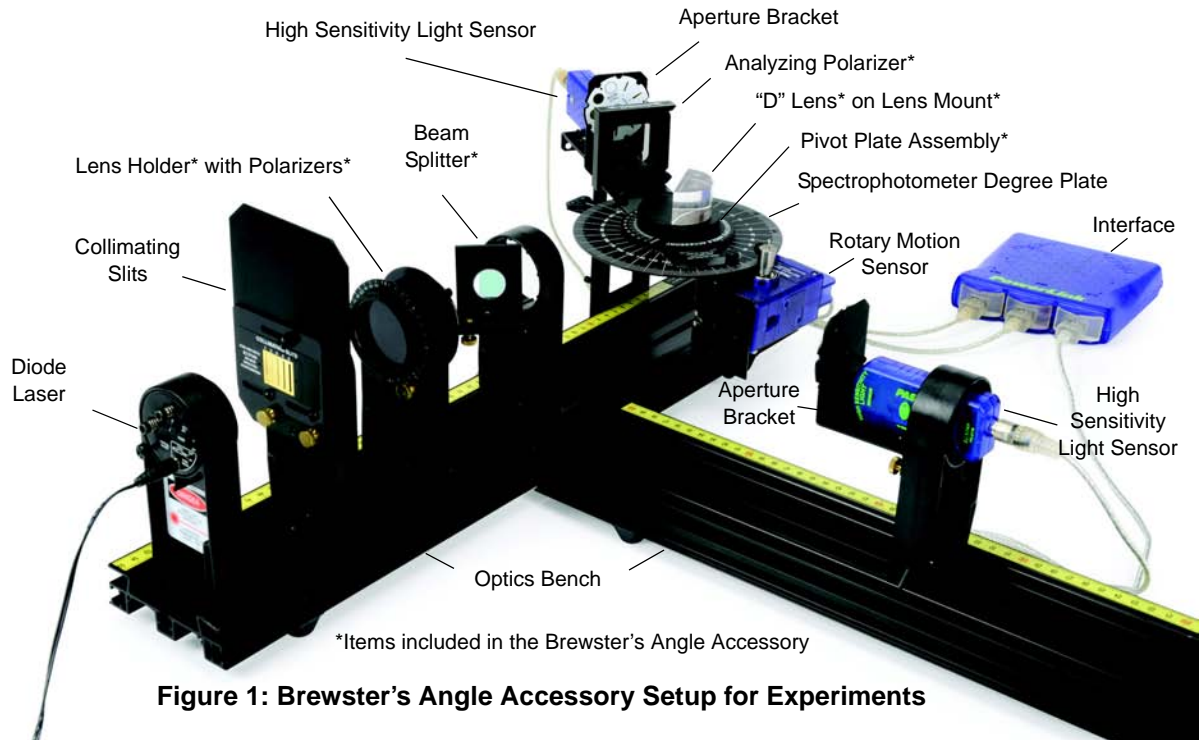

Figure 1: Brewster's Angle Accessory Setup for Experiments
3. Mount the Light Sensor/Aperture Bracket at the far end of the second optics bench (see Figure 1). Connect a patch cord between an electrical ground and a piece of bare metal on the Aperture Bracket.